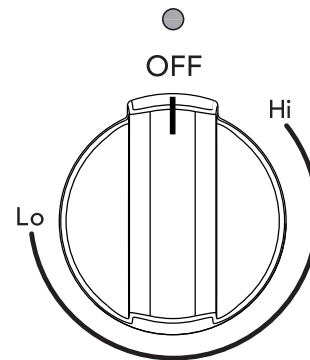

Figure 12: Keep warm knob
1. Push in the knob and turn in either direction (see Figure 12). The temperatures are designated by hi and lo. However, the control can be set at any position between hi and lo for different levels of warming.